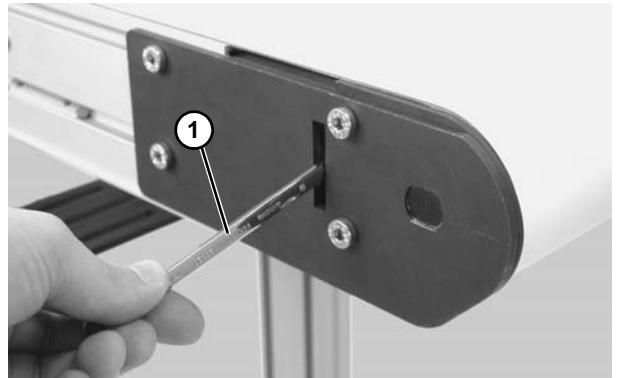
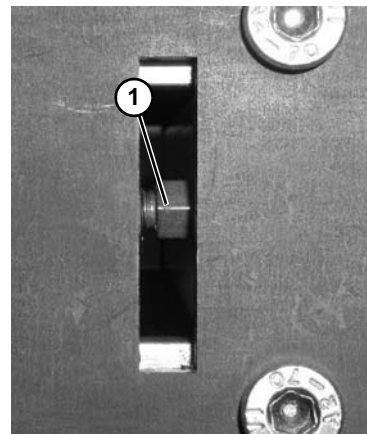

Figure 43
Figure 44
3. With the conveyor running, use wrench (Figure 43, item 1) to rotate the tracking screw (Figure 44, item 1) in small increments until the belt tracks in the center of the conveyor.